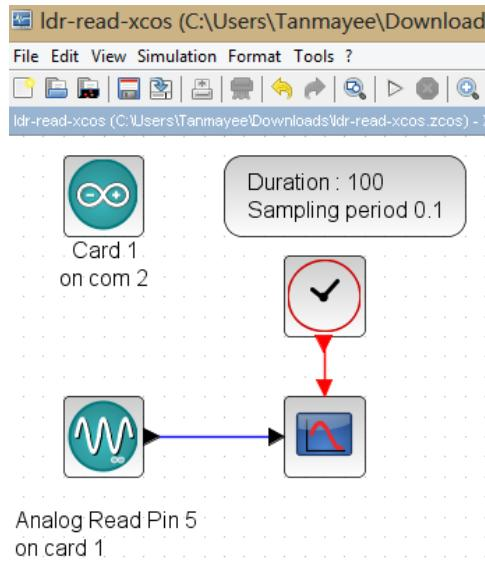

Figure 6.5: Xcos diagram to read LDR values. This is what one sees when `origin/user-code/ldr/scilab/ldr-read.xcos`, see Footnote 2 on page 2, is invoked.
1. The Xcos diagram in Fig. 6.5 performs data acquisition from analog pin 5 and displays the read values on the scope. When the file required for this experiment is invoked, one gets the GUI as in Fig. 6.5. In the caption of this figure, one can see where to locate the file.